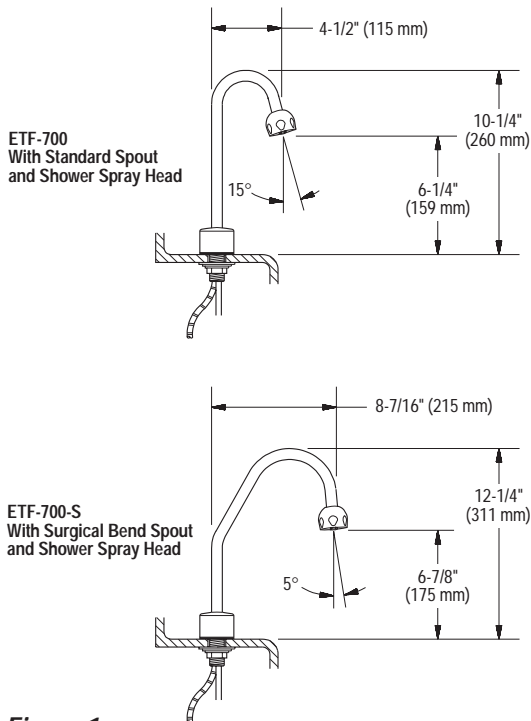

Figure 1
FAUCET ROUGH-IN — Figure 1
Prior to installing the Sloan OPTIMA Series Faucet, install the items listed below. Also, refer to Figure 1.
The Sloan OPTIMA ETF-700 Sensor Operated Gooseneck Faucet is a pre-tempered faucet. A pre-tempered water supply line or a mixing valve (ordered separately or supplied by others) must be used in conjunction with the faucet. When connecting the faucet to a hot and cold water supply, it is recommended that two back checks be installed as shown in Figure 1. When connecting the faucet to a single line water supply or a pre-tempered water supply, a back check is not required.
Step 4 — Connect Supply Line(s) (Figure 1)
When connecting the Faucet to a hot and cold water supply, two Back Checks are required as shown in Figure 1.
Install a 3/8 inch copper Supply Tube between each Back Check and the Compression Tee Fitting supplied (refer to Figure 1).
Refer to Figure 1 — Faucet Rough-In for Additional Information.